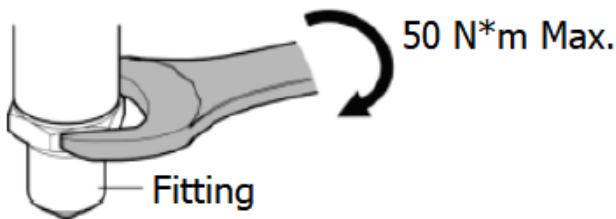

Figure 5. The TP-140D(R) installation
2. Make sure that the sealing surfaces of the TP-140D(R) transducer and the measuring point are clean and undamaged;
3. Fix the Pressure Transducer at the installation point with a wrench (32 mm) for the hexagon of the fitting (see Fig. 1, Item 3). The tightening force should not exceed 50 N*m (see Fig. 5):